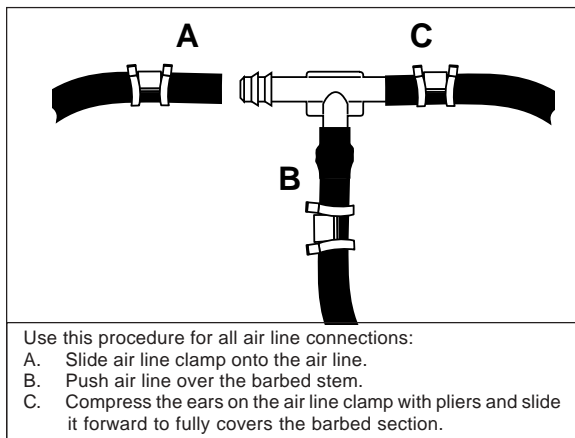

Figure 5
3. Push the air line over one side of the tee until all the barbs are covered. With a pair of pliers, slide the air line clamp forward until it fully covers the barbed section. Repeat entire procedure for other leg of tee (Figure 5).